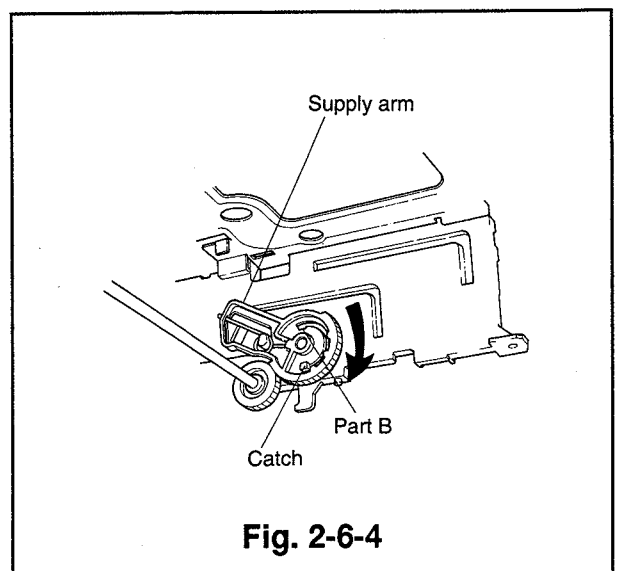

Fig. 2-6-4
- ⑦ Turn the supply arm in the direction shown by the arrow to shift part B, shown in Fig. 2-6-4, so that it aligns with the catch. Unfasten the catch to remove the supply arm.
- ② Install the supply arm in the position shown in Fig. 2-6-4. (Align the catch with the part B of the supply arm.)